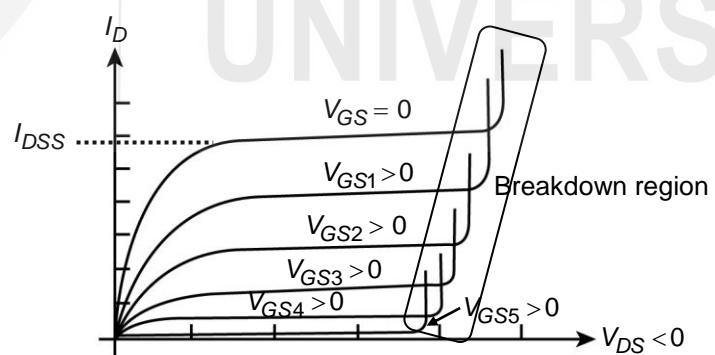

Fig. 3.23: Drain characteristic curve for a *p*-channel JFET.
8. The drain characteristic curve for a *p*-channel JFET is shown in Fig. 3.23. The drain current in a *p*-channel JFET is zero when $V_{GS} = V_P$. It is maximum in a *p*-channel JFET when $V_{GS} = 0$ and $V_{DS} = V_P$.